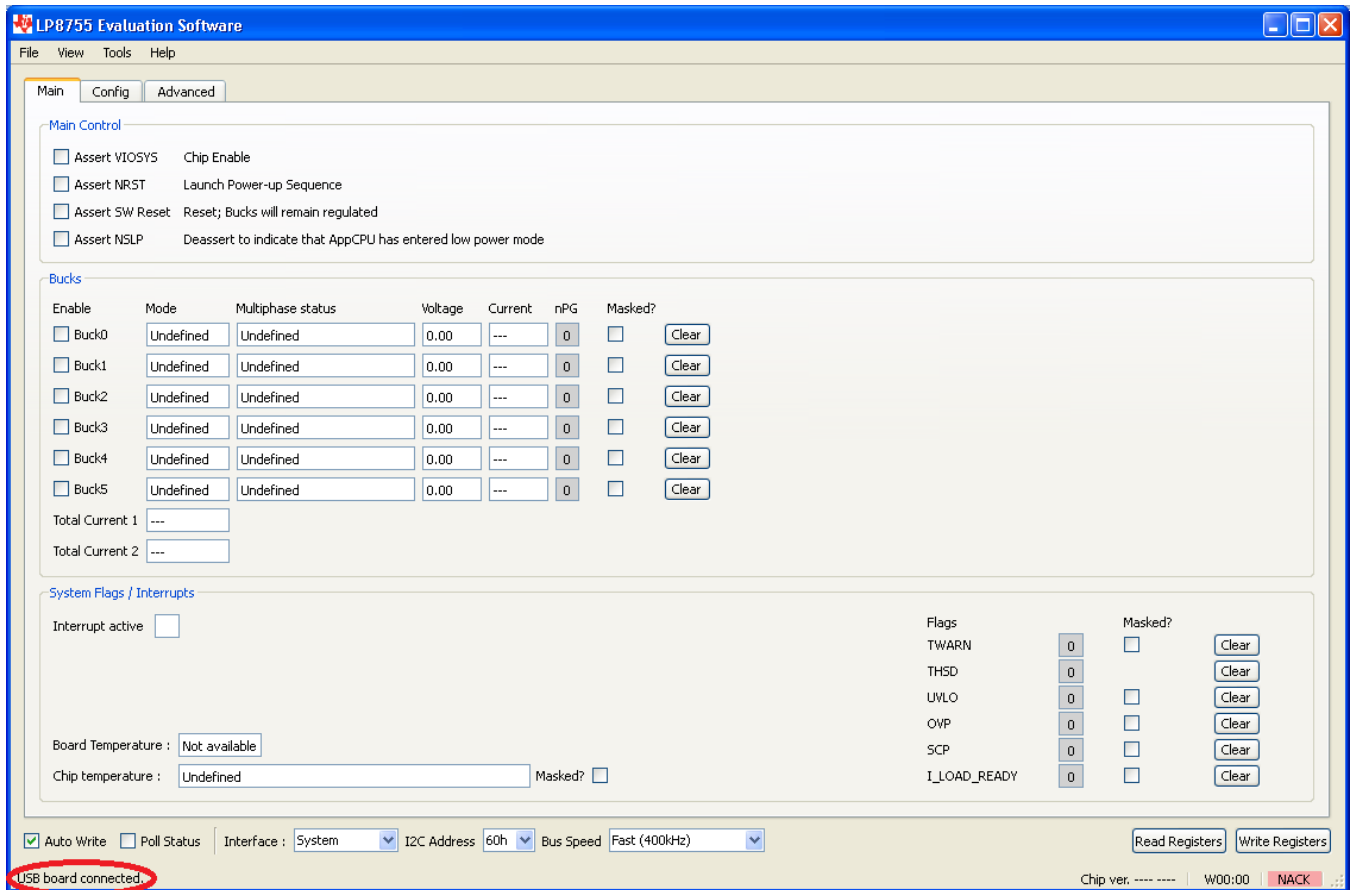

Figure 2. Evaluation Software Graphical User Interface (GUI) When USB Board Connected
2. On the Evaluation SW window bottom right corner you should see text "USB Board connected". Refer to Figure 2.